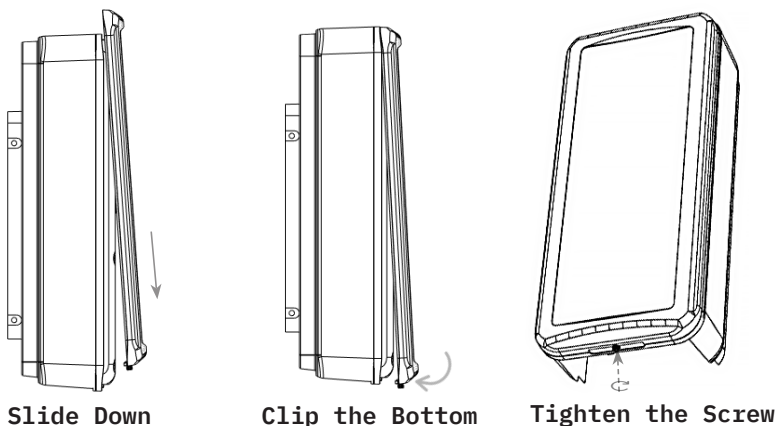

Figure 3-16 Securing the Front Cover
Step 5: Slide the transparent front cover on and tighten the captive screw with Hex Driver 7/64” as shown in **Figure 3-16**. Hand tighten until snug. **DO NOT** over tighten!